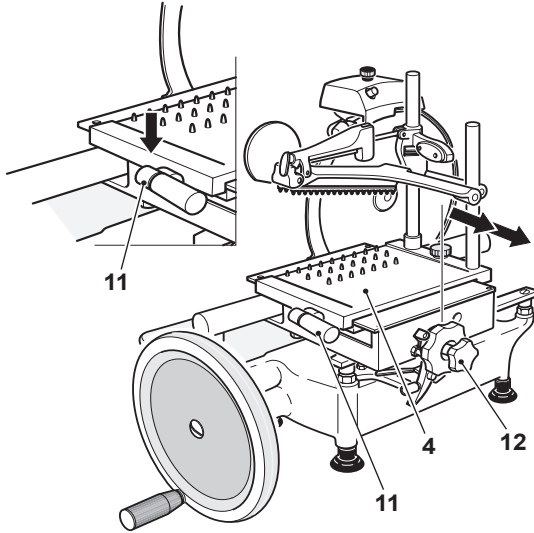

Figure 18-1
- Turn the product holder operating handwheel (12) clockwise or gently press down on the fast forward lever (11) to move the product holder (4) away from the knife (16) (Figure 18-1).